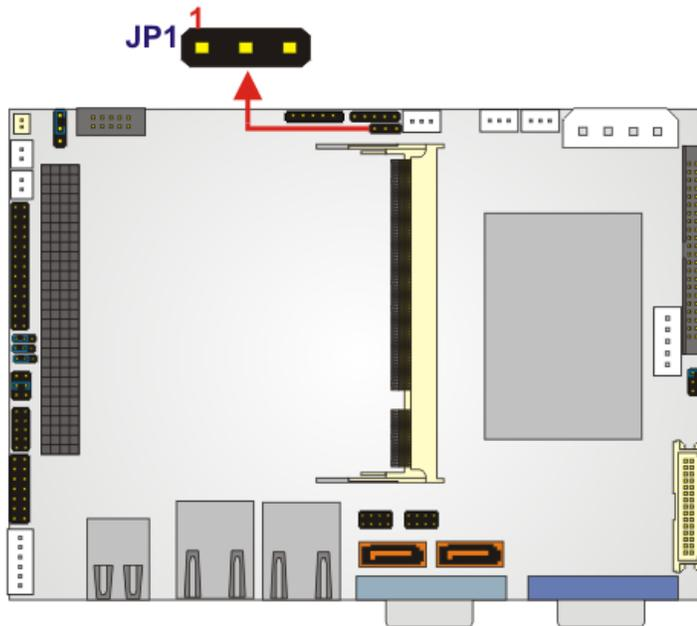

Figure 4-3: CF Card Setup Jumper Pinout Locations
- Jumper Location:** See **Figure 4-3**
The CF Card Setup jumper location is shown in Figure 4-3